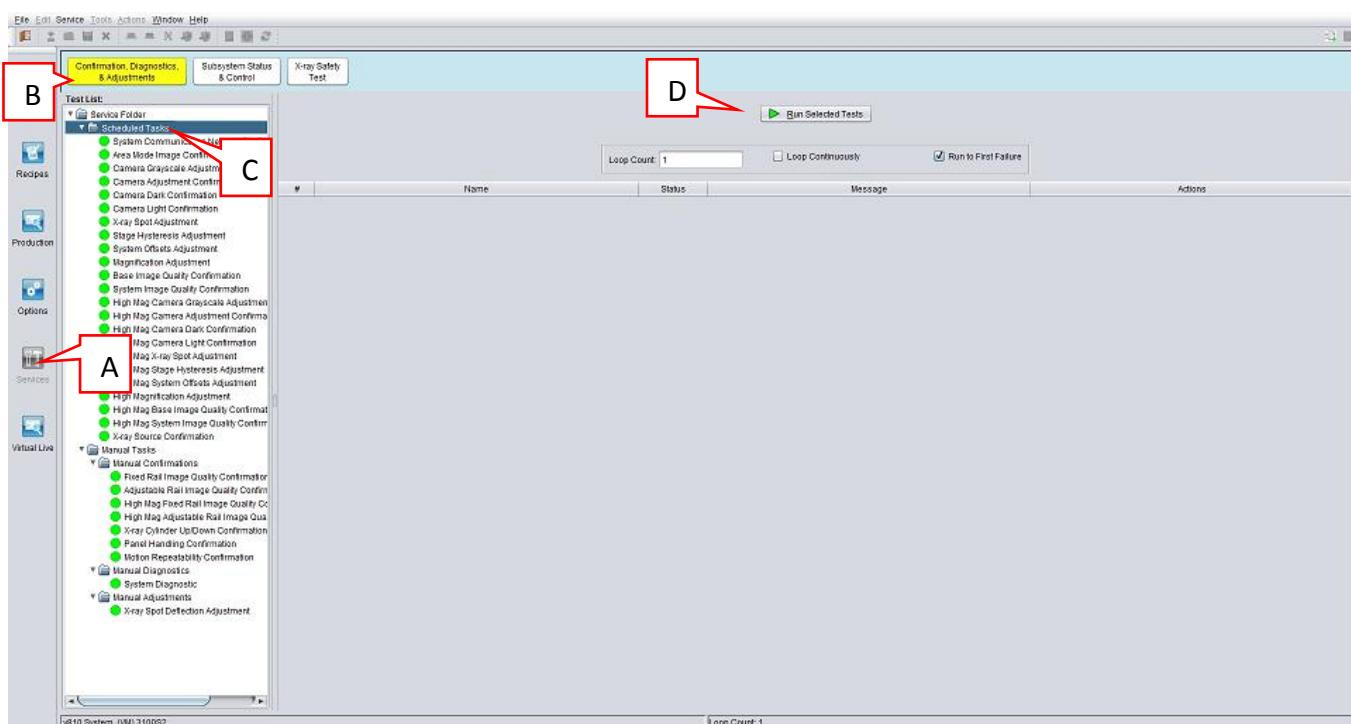

Figure 20 CD&A
20. Turn on x-ray source & run one loop CD&A as shown in Figure 20.